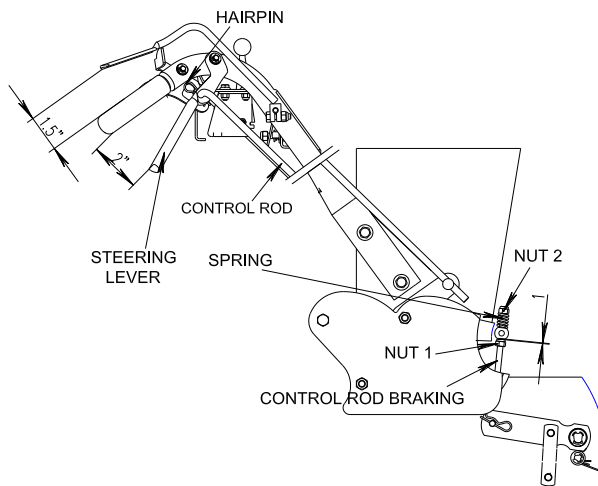

FIG 13
- Adjusting brake lever: Loosen or tighten locknut at the bottom of brake lever to adjust the length of the brake lever. See FIG 13
Move the steering lever into the lock position. Tighten nut 1 downward slightly; then tighten nut 2 to compress the spring and increase braking. Tighten nut 1 again; maintain a 1mm clearance to the swivel. (See FIG 13)